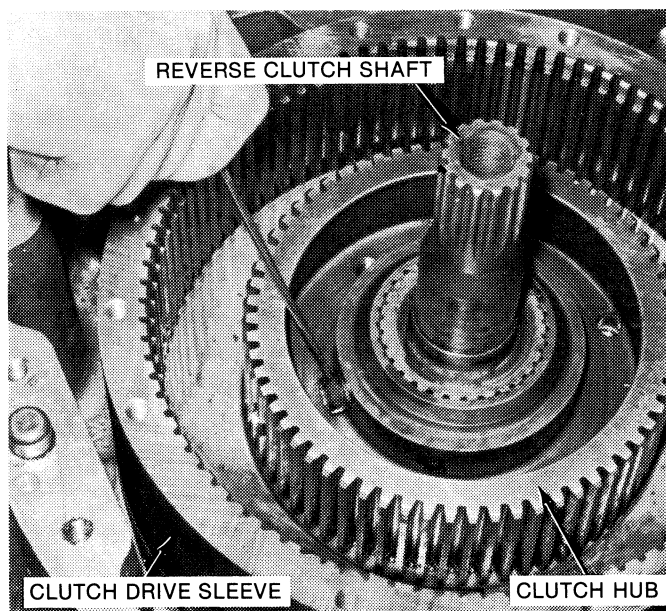

Figure 6-20. Removing or Installing Dowel Pin Screw on Clutch Hub.
21. Loosen dowel pin screw (Figure 12-3, 24) on the reverse clutch and (Figure 12-2, 27) on the forward clutch hub. See Figure 6-20. Back the screw out approximately 3/8 inch. Do not remove the screw.
22. Remove the clutch hubs. See Figure 6-20. (Reverse clutch hub shown).